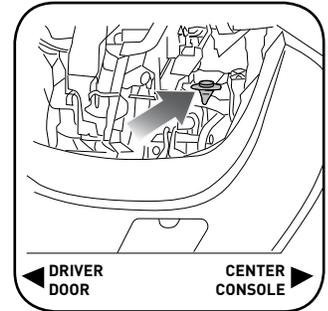

Fig. 1.2
(OPTIONAL) To completely remove the vents: looking from the floorboard up into the dash (driver side) locate and remove (1) 10mm bolt securing top pocket with a strap. (fig. 1.2)